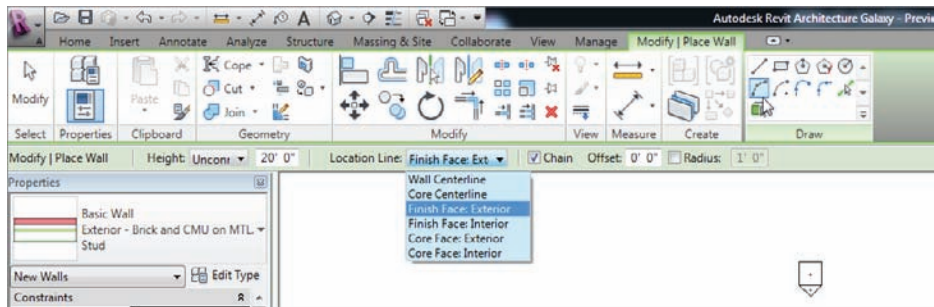

FIGURE 1.30 Just because you started the command from the view window doesn't mean you don't have to look at your options.
6. On the **Modify | Place Wall** tab, click the **Start-End-Radius Arc** button, as shown in Figure 1.30.